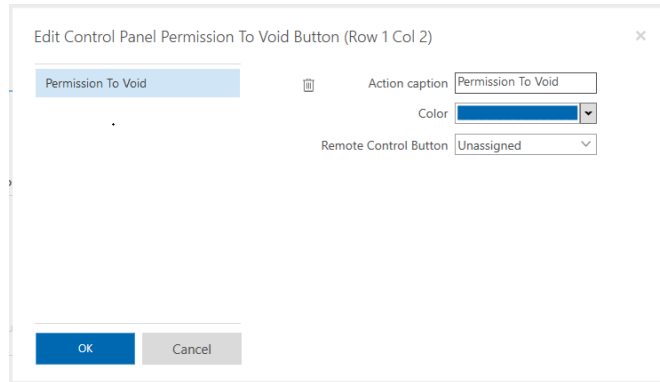

Figure 47: Edit Control Panel Button
- To customize the appearance of buttons, click the **Options** icon  located beside the button. A window will appear where minor button functions and appearance may be adjusted (Figure 47). Options include button caption, colors, and connectivity. Once edits are complete click **OK**.